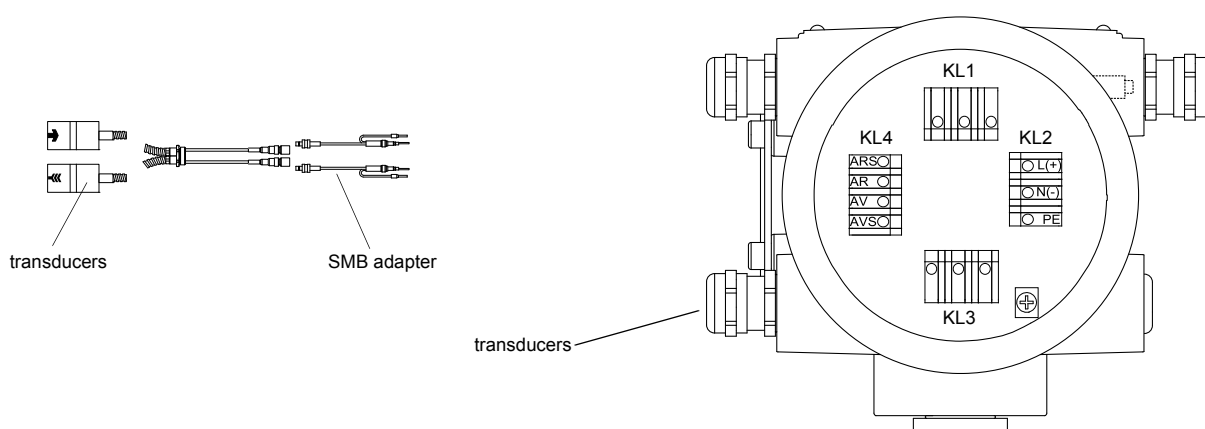

Fig. 6.17: Connection of the transducer cable with SMB adapter
- Remove the left blind plug for the connection of the transducer cable (see Fig. 6.17).
- Connect the transducer cable to the terminals of the transmitter (Fig. 6.17 and Tab. 6.13).